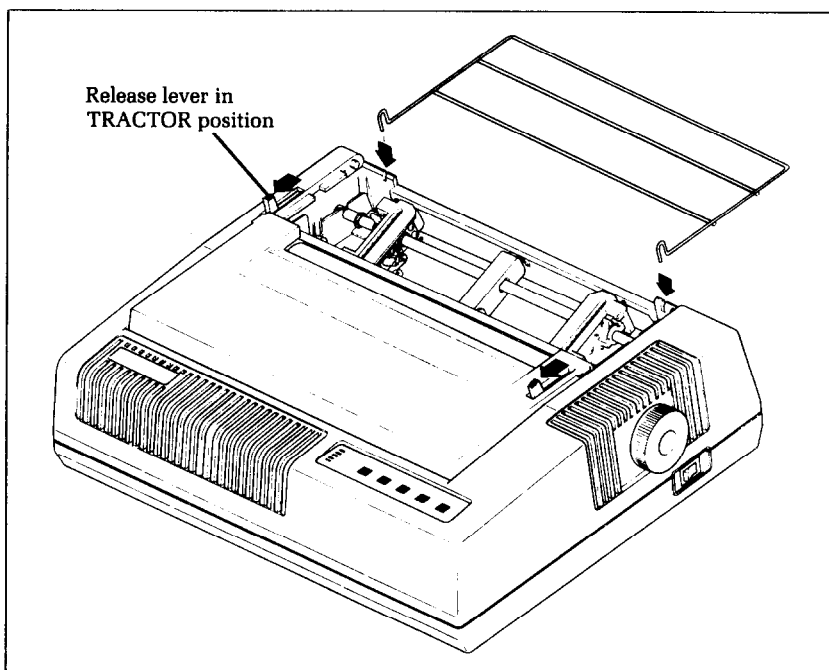

Figure 2-6. The wire paper guide keeps continuous paper away from the cables.
2. Attach the wire paper guide to the rear of the upper case, as shown in Figure 2-6.